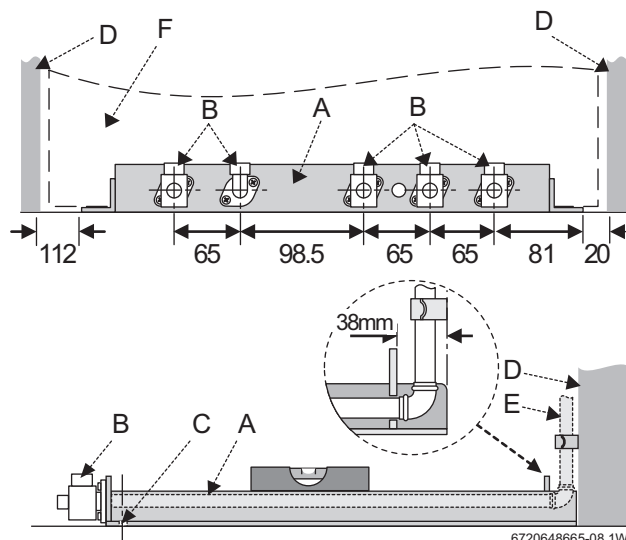

Fig. 21 Pipe positioning
- ▶ Cover the mounting frame manifold assembly (A), figure 21, page 22 to protect the manifold connections.